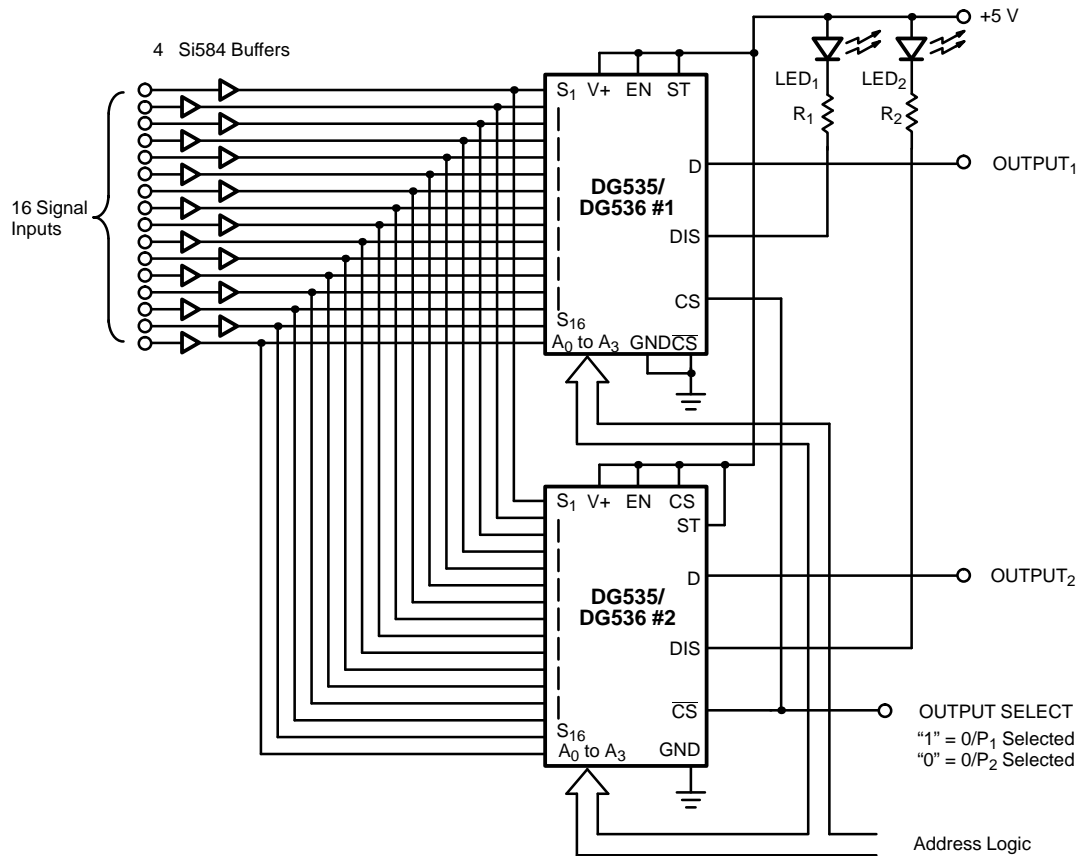
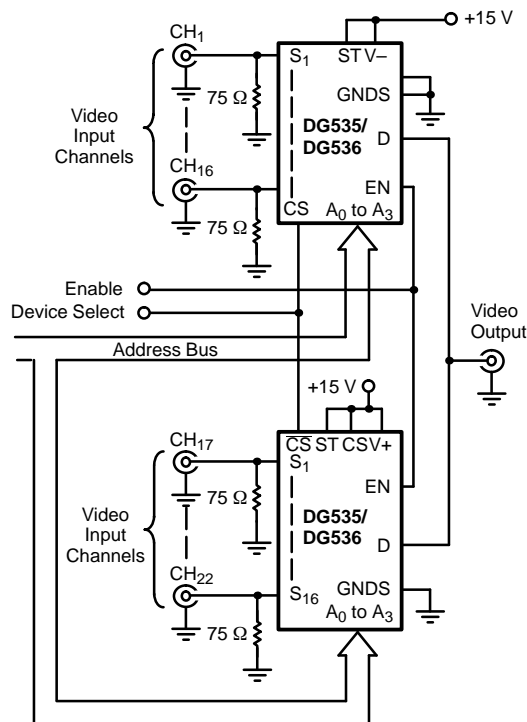
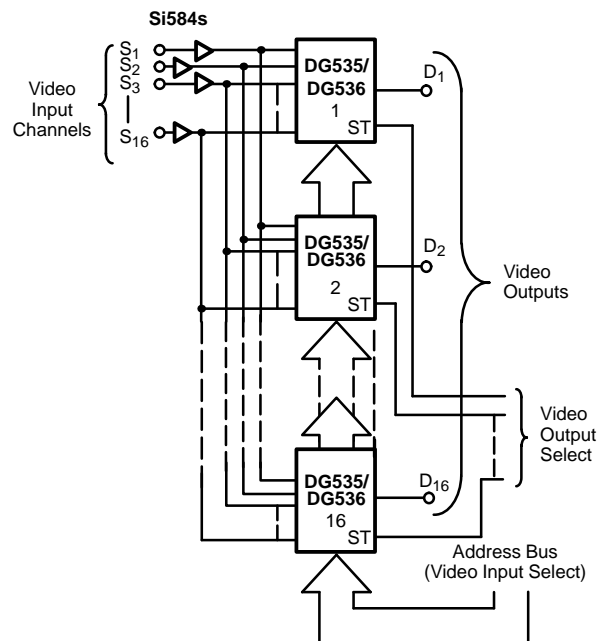

FIGURE 11. The DG535/536 as a 16 × 2 Matrix Switch
FIGURE 12. 32-Channel Multiplexer
FIGURE 13. 16 × 16 Video Crosspoint Circuit
An additional feature, a DIS pin, is an open drain terminal with the source tied to the device substrate. The DIS terminal represents a high impedance to the substrate (normally ground) when the DG535/536 is disabled and a low impedance to ground when the DG535/536 is enabled. This output can be used to indicate which device in a large matrix has been enabled (see Figure 13), or it can be used to switch off circuitry following the multiplexer stages.
Figure 11 illustrates how the DIS (disable) pin can be used to indicate which output is selected. When logic 1 is applied to output select, device 1 is enabled and device 2 is disabled. With device 1 enabled, the DIS pin is connected to signal ground, thus turning LED 1 on. With device 2 disabled (due to \overline{CS} being 1), its DIS pin represents a high impedance to ground and LED 2 is off.
The circuit in Figure 11 also illustrates how the chip select inputs can be used. As shown in Figure 12, a 32-channel single-ended multiplexer can be configured without external chip select circuits. This circuit makes use of the \overline{CS} and \overline{CS} inputs which allow device selection from a single control line.
The basic circuit shown in Figure 11 can be extended and elaborated to give a 16 x 16 matrix for video crosspoint applications such as central routers used in video studios. This circuit, shown in Figure 13, allows source (or video input) to be connected to any video output (or any number of outputs). The strobe input (ST) on each device is used to latch the appropriate address into that particular device. By strobing the required address into each device sequentially, any crosspoint connection can be made.
The circuit shown in Figure 13 can be used as a digital cross-point to replace expensive, power consuming ECL crosspoint ICs. Besides handling raw digital data, the DG535/536 can also be used for other forms of data transmission, such as FSK and PCM systems.
RZ (returns to zero) PCM data consists of three discrete (ternary) levels to overcome long periods of zeroes (Figure 13). Digital signals can degrade beyond legibility after only a few hundred yards of travel down a transmission line. Therefore, the PCM signals must be regenerated at regular distances to avoid excessive distortion.